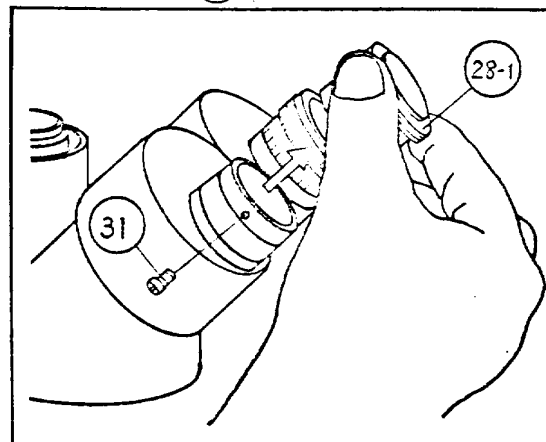

Fig. 4
- 2) Removing the guide screw (31), take out the eyepiece sleeve (28-1) (Fig. 4).